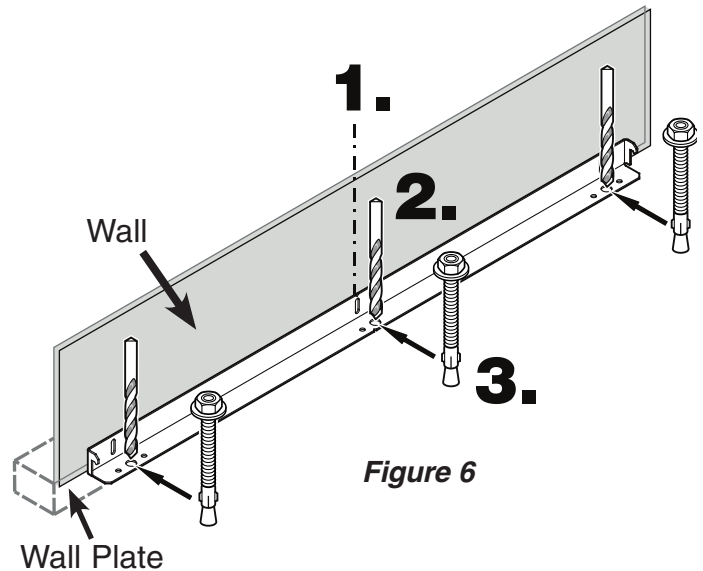

Figure 6
Mounting the anti tipping device on concrete floors - Figure 6 - 7
2. Drill a 3/8" diameter hole in any position as shown in **Figure 6** using a carbide drill bit.